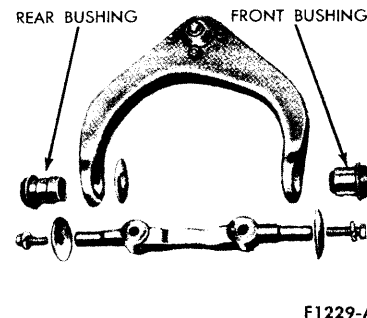

FIG. 11—Upper Arm, Shaft, and Bushing Assembly
5. Both upper arm bushings are pressed into the arm from the outside toward the inside of the arm. To facilitate installation, use silicone or liquid soap as a lubricant. See Fig. 11 for proper assembly of the shaft and bushings.